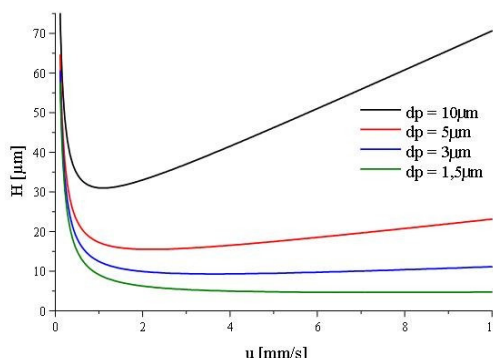

Fig. 1
Nowadays high performance liquid chromatography (HPLC) is used in a wide variety of industries and service laboratories as one of the most rugged and reliable techniques for the analysis of organics. Typical fields of application include pharmaceuticals, food, flavors, natural products, environmental contaminants and polymers analyzed in a wide variety of samples.^[1] Since the mid 1980-ies, reliable HPLC instrumentation is available that separates complex mixtures on column of typically 250 mm length packed with 5 μm particles, using a pumping system with capacity up to 5000 psi/400 bar. The flow rate is in the range of 0.1 – 10 ml/min. The Van Deemter plot (see fig. 1) indicates the theory of liquid chromatography.^[2] In the case of smaller particles not only the separation efficiency increases (lower optimum plate height with smaller particles), but also this optimum is realizable at higher flow rates. Moreover the Van Deemter curve is much more flat at flow rates (or velocities) above the optimum. The same separation efficiency can be achieved on a shorter column when changing to smaller particles. Together with the higher mobile phase velocity this points out the main benefits of sub 2 μm particles used in (U)HPLC. Over the past few years a tremendous interest in approaches to speed up/ and /or increase resolving power of the analytical separation could be recognized. A lot of chromatographers want to transition some of their classical HPLC methods to fast UHPLC methods. With the help of special HPLC calculation software this is no longer depending on the experience of an HPLC user.